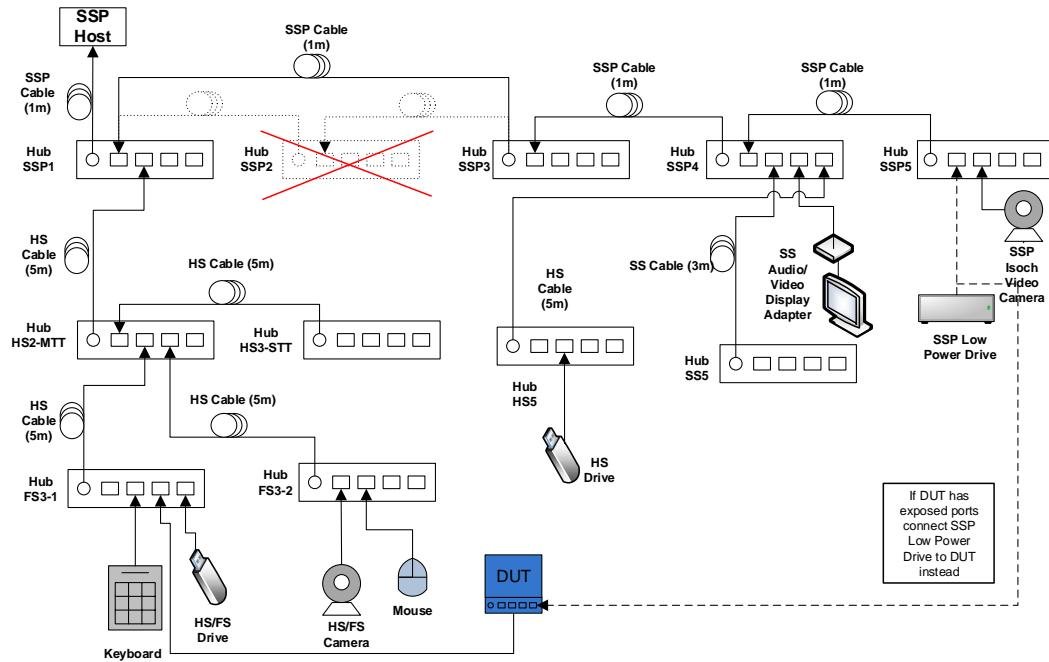
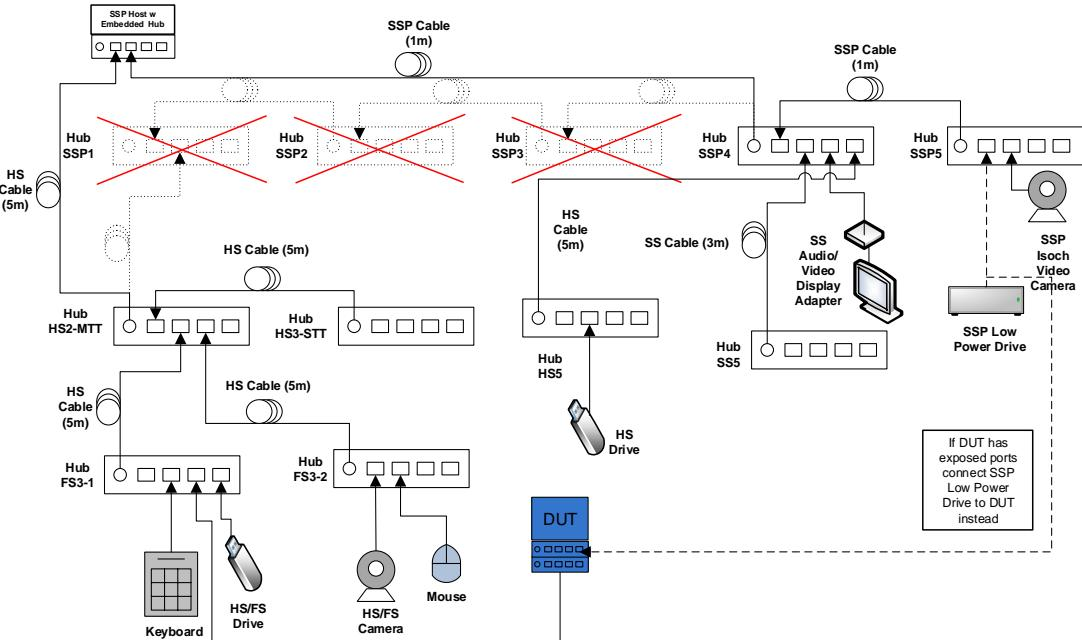

Figure 6-13: Interop Tree with Compound Device – Topology Change 2
Figure 6-16: Interop Tree with Compound Device (Dual-Hub) – Embedded Hub – Topology Change 2
- While operating the devices, attach the Device Under Test to port 3 on Hub FS3-1 as shown below in Figure 6-13 through Figure 6-16.